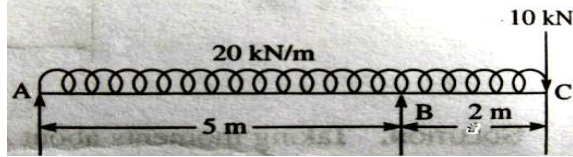

Fig. 4
6. (a) Draw the S.F. and B.M. diagram for the overhanging beam carrying loads as shown in Fig. 4. Locate the point of contraflexure, if any, uniformly distributed and concentrated.